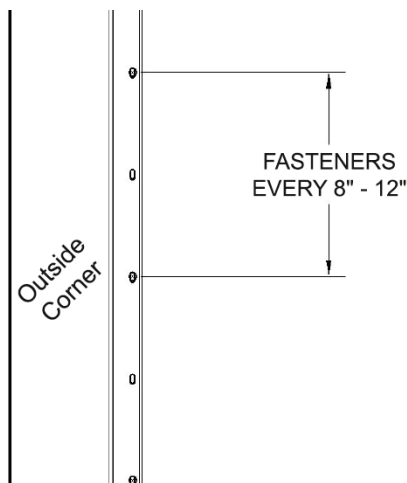

Fig. 1
3. Securely fasten the outside corner to the wall using galvanized, stainless, or corrosion resistant nails or screws approximately every 8" to 12" along the nail hem (Fig. 1).